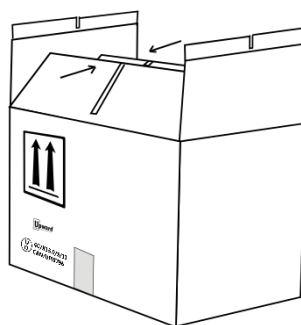

Figure 5
7. Fold flaps on top of carton (long edge first) and seal with one strip of tape. Extend tape beyond each edge by at least 2". (See Figures 5 & 6)